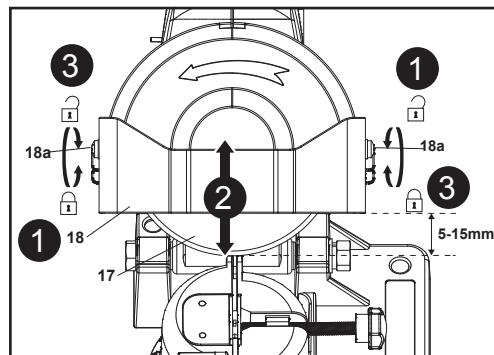

Fig. 8
1. Loosen the two screws (18a) anticlockwise with a suitable Phillips-head screwdriver (not supplied), but don't remove them (Fig. 8, step 1).
2. Slide the transparent movable guard (18) up or down to appropriate position (Fig. 8, step 2).
3. Secure the transparent movable guard (18) by tightening the two screws (18a) clockwise (Fig. 8, step 3).